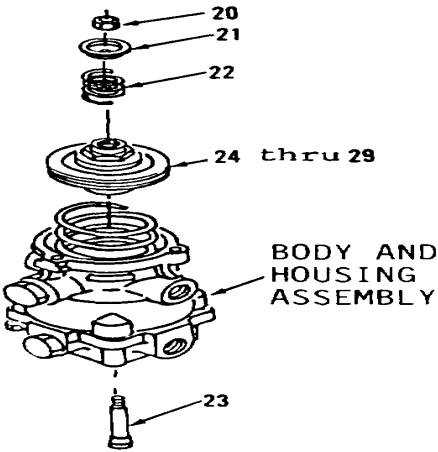
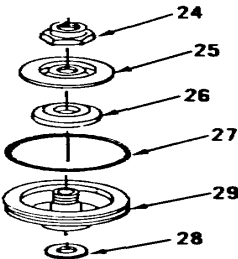

Figure 6-35.
Figure 6-36.
- 9. Remove nut (20), retainer (21), spring (22) and stem (23, Figure 6-35).
- 10. Remove items 24 thru 29 as an assembly from body and housing assembly.
- 11. Remove nut (24), seat (25), rubber spring (26), preformed packing (27) and washer (28) from piston (29, Figure 6-36). Discard rubber spring (26), preformed packing (27) and washer (28).